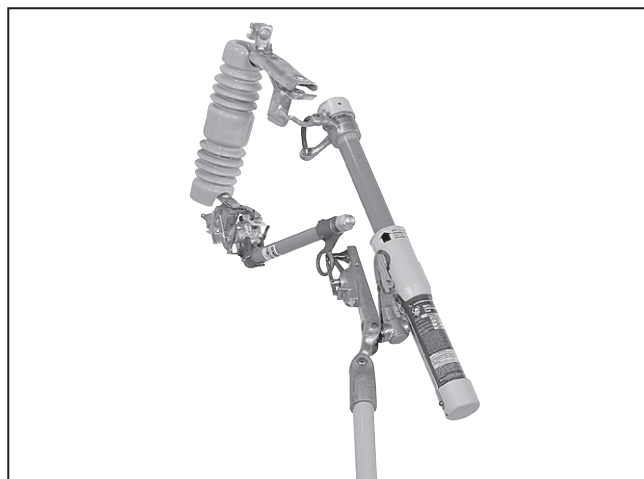

Figure 8. A Loadbuster tool in the Tripped position.
- STEP 4.** To open the circuit, operate the Loadbuster tool with a firm, steady pull until it is extended to its maximum length. See Figure 8. Avoid jerking and hesitation. The resetting latch will keep it open. Generally, there will be no indication of circuit interruption, but commutation arcing may be noted at the pull-ring hook and at the anchor, particularly when interrupting load currents approaching the rating of the tool. The only sound will be that of the Loadbuster tool tripping.